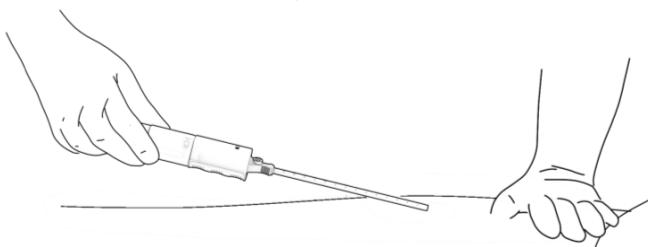

Figure 17. Removal of deployed device.
- Gently withdraw the delivery system from the tissue tract. Figure 17.